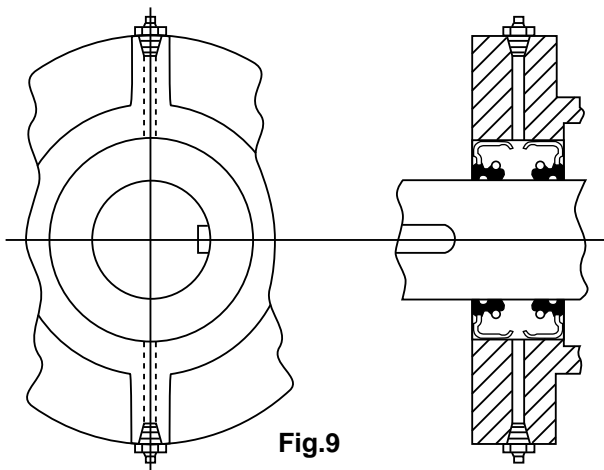

**Fig. 8**
- B. Drill two holes in the seal face 180° apart. Insert large sheet metal screws and leave about 3/16" (4.76 mm) length of screw under the head protruding. Use a pry bar with the notch at one end under the screw head to lift the seal out. (See Fig. 8)